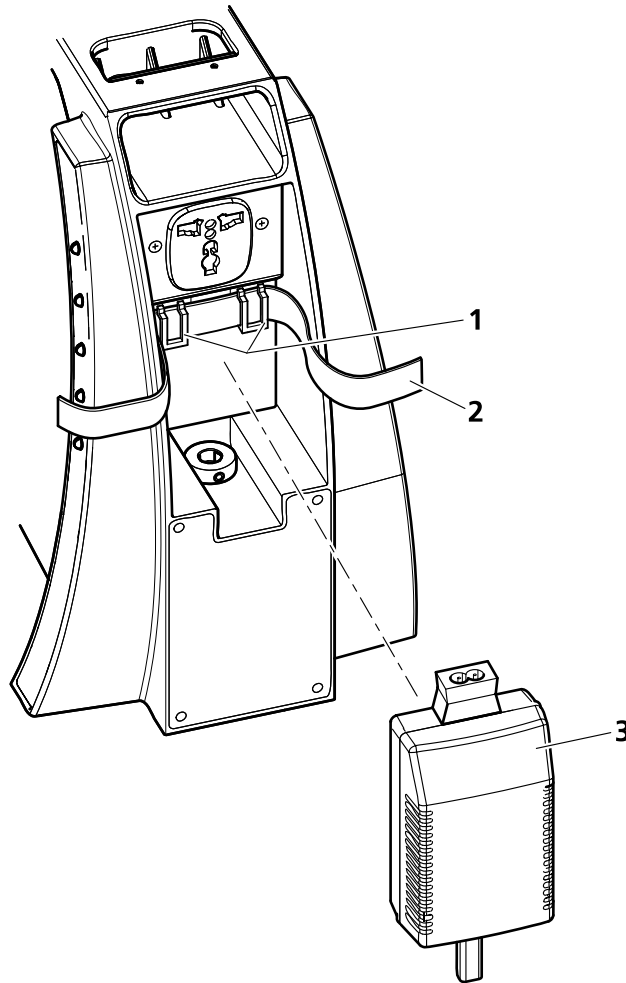

**Fig. 5 Starting up the microscope**
- Remove the plug-in power unit (Fig. 5/2) from its storage fixture on the back of the microscope stand.
- Replace the installed power outlet adapter by one of the supplied country-specific adapters (Fig. 5/4), if necessary. To this end, pull off the attached adapter and plug on the desired adapter.
- If the plug-in power unit cannot be plugged into the chosen power outlet because of limited space, replace the power outlet adapter by the supplied IEC adapter (Fig. 5/3). This allows the plug-in power unit to be put flat onto the tabletop and connected to the power outlet through a country-specific appliance cable.
- Switch on the microscope with the rotary knob (Fig. 5/5) and adjust the illuminator to the desired intensity.